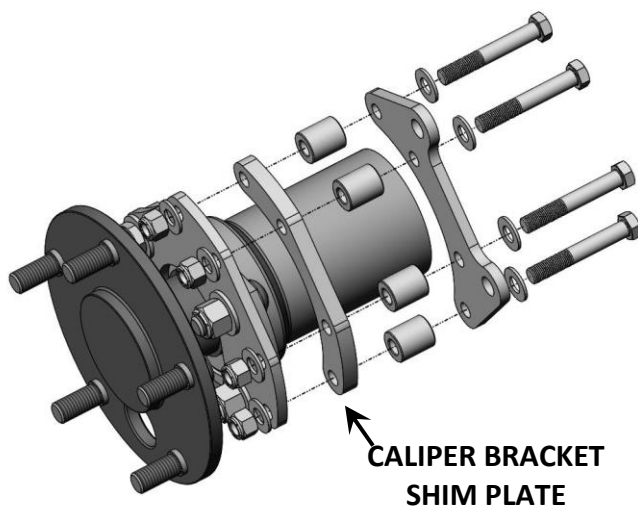
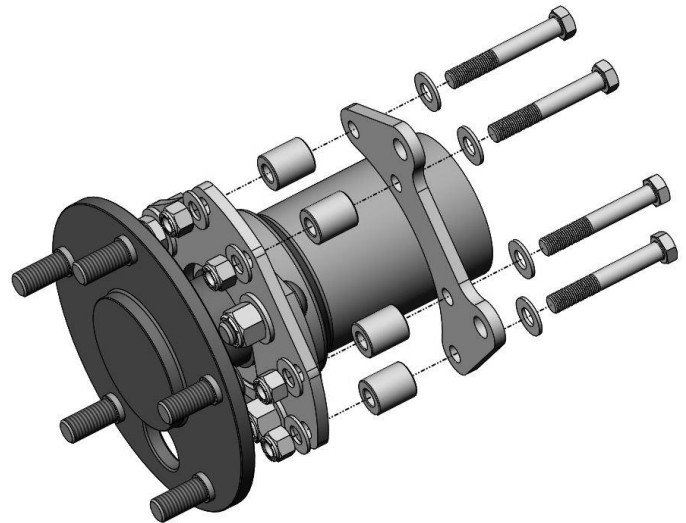

Figure 6 – Caliper Mounting Bracket Installation (2.000" Standoff)
Figure 7 – Caliper Mounting Bracket Installation (2.375" Standoff)
8. Install the Secondary Caliper Mounting Bracket at this time. If in step 7 you determined your standoff was 2.000", install the Caliper Bracket Shim Plate between the Primary Caliper Mounting Bracket and the spacer bushings as seen in Figure 6 below. If in step 7 you determined your standoff was 2.375", the Caliper Bracket Shim Plate is not required. Mount the Secondary Caliper bracket to the Primary Caliper Bracket with the spacer bushings only between them, as seen in Figure 7 below. Use the provided 3/8"-24 x 2.500" Grade 8 Hex Head Bolts, 3/8" SAE Flat Washers, 3/8"-24 Nyloc Nuts while installing the Secondary Caliper Mounting Bracket. Once in position, torque the 3/8" hardware to 40 lb/ft.